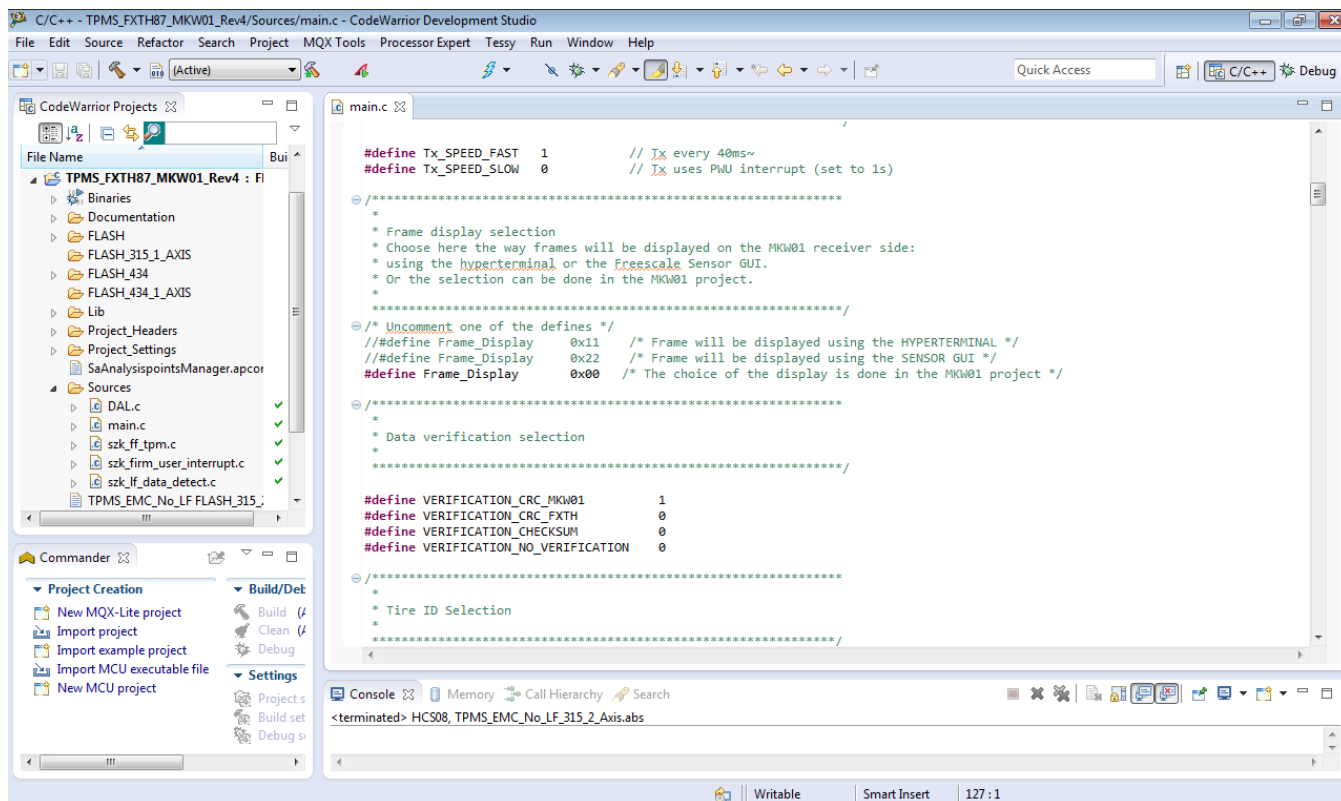

Figure 8. Codewarrior Screen
2. Click the “Debug” button in Codewarrior (see figure 8 below).